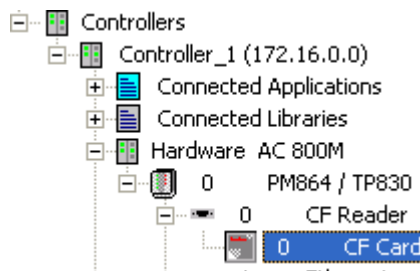

Figure 58. The Controllers item expanded and the CF Card connected to the CF Reader item.
1. Expand the **Controllers** item until you reach the **CF Reader** item (Figure 58).
This subsection will describe how to save cold retain values cyclic. Provided that you have added the CF Card to your Hardware tree according to Figure 58, do the following: